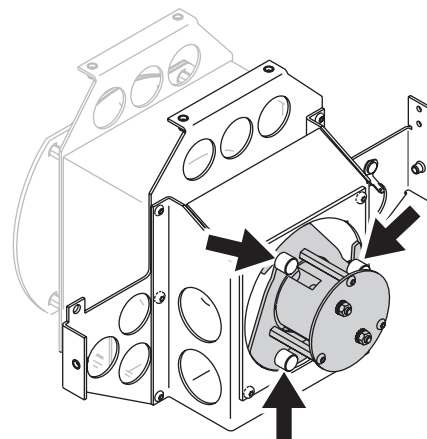

Figure 21: Lampholder screws
5. See Figure 21. The lampholder is at the rear of the effects modules. Note the position of wiring to the lamp. Loosen, but do not remove, the three Allen screws (arrowed) holding the lampholder. To release the lampholder, push it in slightly and rotate it so that the holes in the lampholder plate clear the Allen screws, then gently pull the lampholder clear. Avoid touching or knocking the lamp against other components.